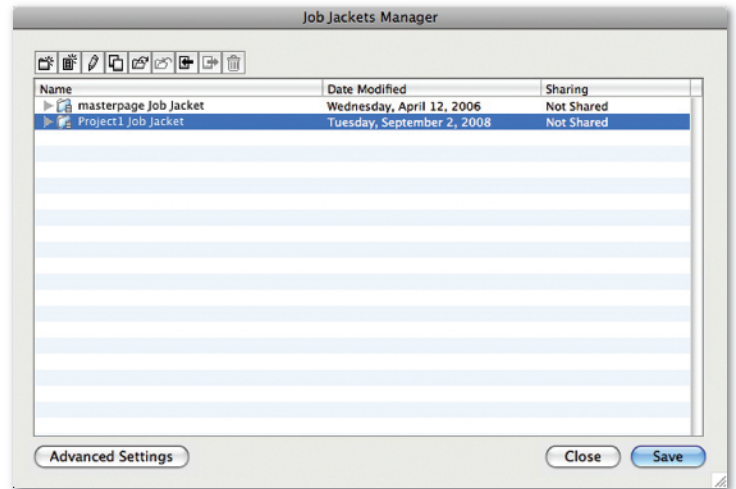

Figure 1
- 5** Click **SAVE**. You should have something that looks like figure 1. If you've been here before, you may have more than just the default job jacket, as I do.
This view of the Job jackets manager in figure 1 is basic settings mode. There is an advanced settings mode as well, but we are going to try to keep it simple in the beginning. Now that we have a job jacket, let's add some resources for later use.